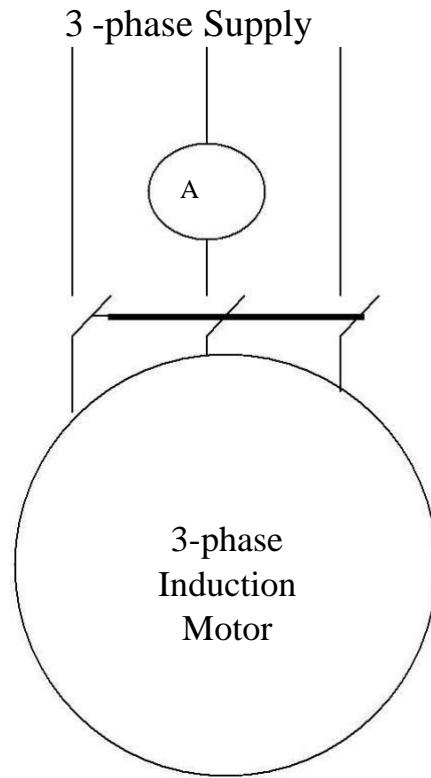

FIG.3
- E. For star-delta starting , connect the cage motor to the terminals of the star-delta switch (FIG.3)